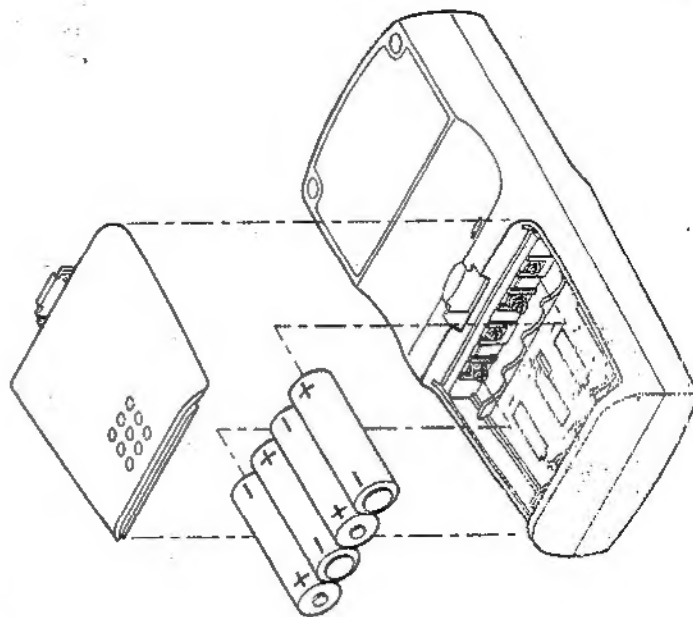

Figure 5: Installing Batteries
2. Install four "AA" size batteries, oriented as shown in Figure 5. Replace the battery access door.